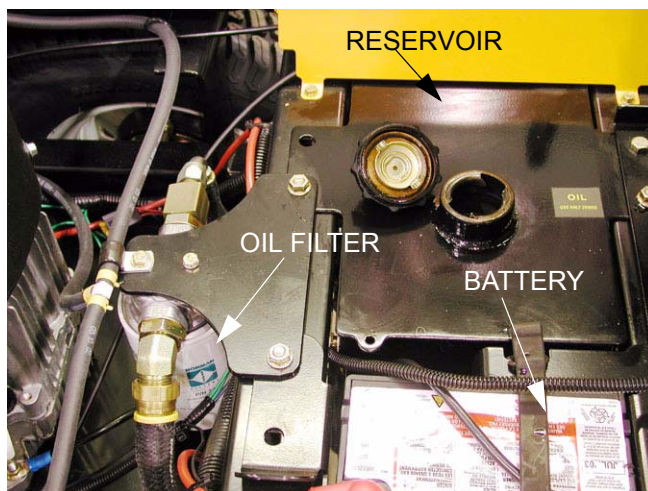

Figure 3.2
- 3.2. The hydraulic reservoir and filter are accessible beneath the seat. See Figure 3.2.